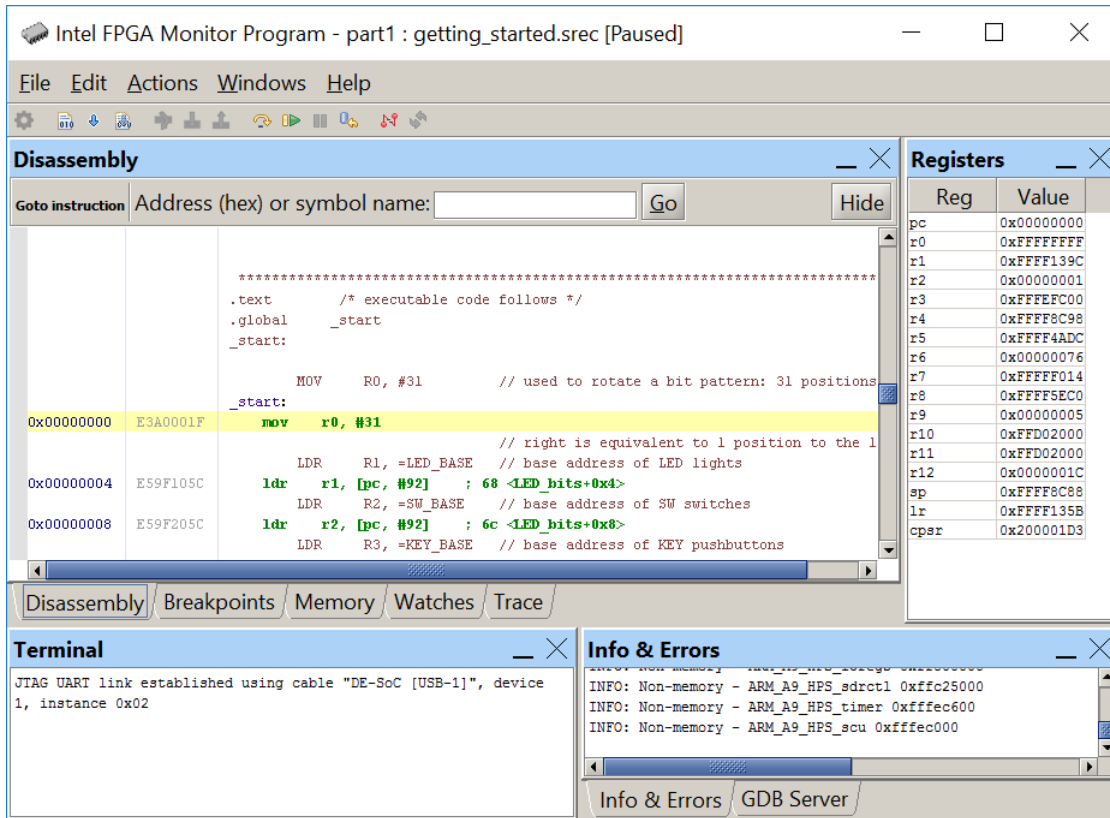

Figure 8: The monitor window showing the loaded sample program.
9. Having downloaded the Computer into the Cyclone V SoC chip on your DE-series board, we can now load and run the sample program. In the main Monitor Program window, shown in Figure 8, select **Actions > Compile & Load** to assemble the program and load it into the FPGA chip. Figure 8 shows the Monitor Program window after the sample program has been loaded.